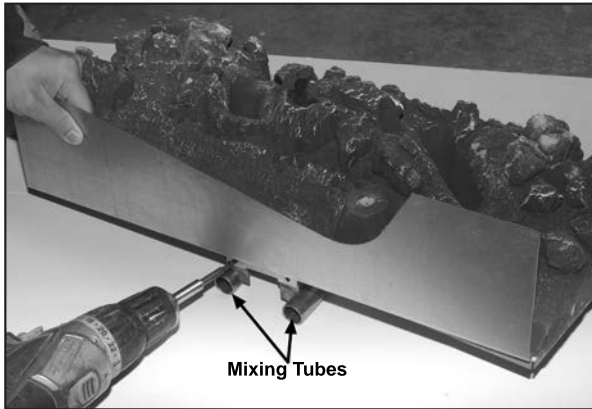
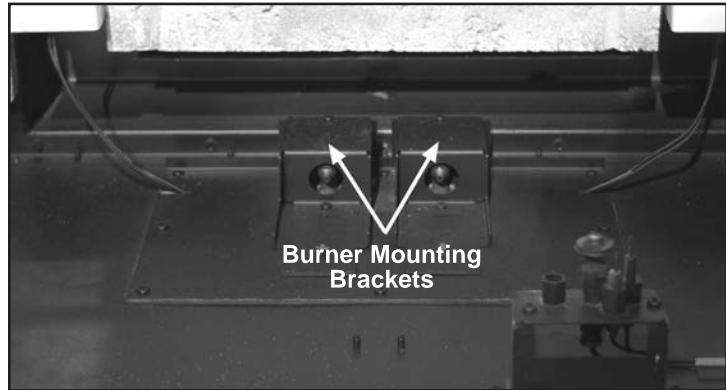

Figure 15: Installing Rear Burner Shield.
Figure 16: Burner Mounting Brackets.
1. Use the two (2) T-20 screws provided; install the rear burner shield onto the back of the burner. The mounting holes are just above the mixing tubes at the rear of the burner, refer to Figure 15.
2. In the bottom rear of the firebox there are two (2) gas orifices in a housing that facilitate the air shutter mechanisms and the Burner Mounting Brackets are above them (See Figure 16). There are two (2) mixing tubes underneath the back of the burner (see Figure 15). Lift the burner into the firebox with the back of the burner tilted downward. Keep the burner high enough at the front to clear the pilot assembly. Line up the mixing tubes with the holes in the burner mounting brackets and slowly lower the front of the burner over the pilot assembly (see Figure 17).